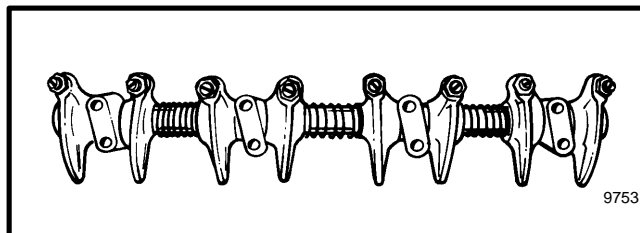

FIGURE 22. ROCKER ARM ASSEMBLY
5. Assemble the rocker arm assembly as shown in FIGURE 22. Apply engine oil to the parts during assembly. Two of the rocker arms have a chamfer. Make sure these rocker arms go at each end of the shaft.